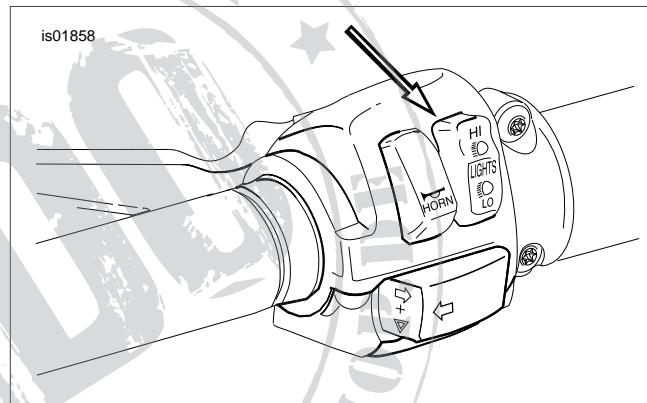

Figure 13. High Beam Setting
8. See Figure 13. Set handlebar headlamp switch to high beam position.